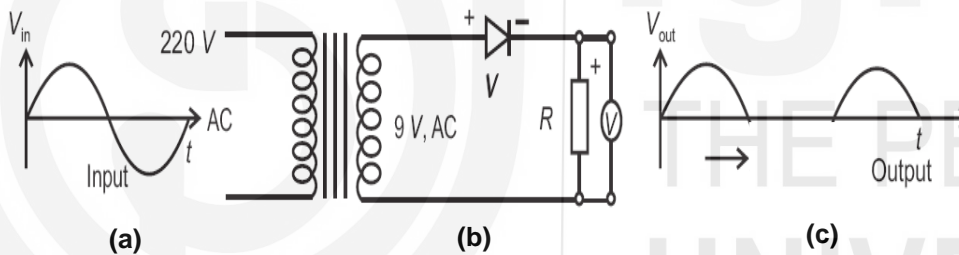

Fig. 10.1: a) Input ac signal; b) half-wave rectification; c) rectified output signal.
To understand the rectification action of a *p-n* junction diode, study the circuits shown in Figs. 10.1 and 10.2 and observe the input and output waveforms shown in Fig. 10.1a and c and 10.2a and c. We now describe how the diode works as a rectifier. There are two types of rectifiers: Half-wave rectifier and full-wave rectifier. First we discuss the half-wave rectifier.
3. Make the circuit connections for the half-wave rectifier as shown in Fig. 10.1. Apply input voltage (220 V ac).